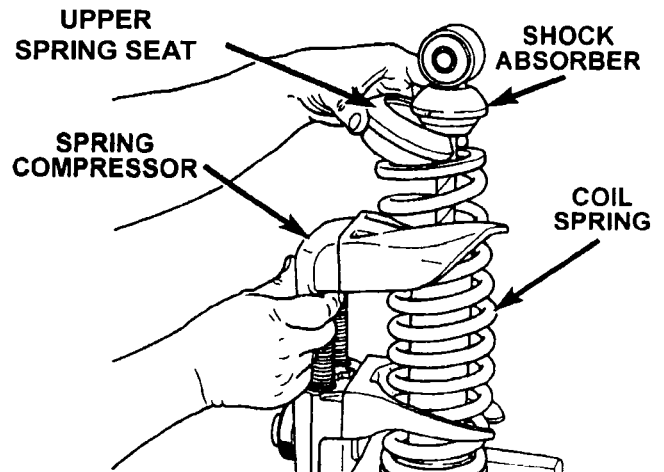

Figure 66
3. Compress the shock absorber coil spring using Professional Service Equipment Spring Compressor GP-2020-C3.5 or equivalent (Figure 66). The spring compressor must be equipped with an A-20 spring shoe on the top and bottom.
4. Compress the coil spring enough to allow the coil spring upper seat to be removed (Figure 66).